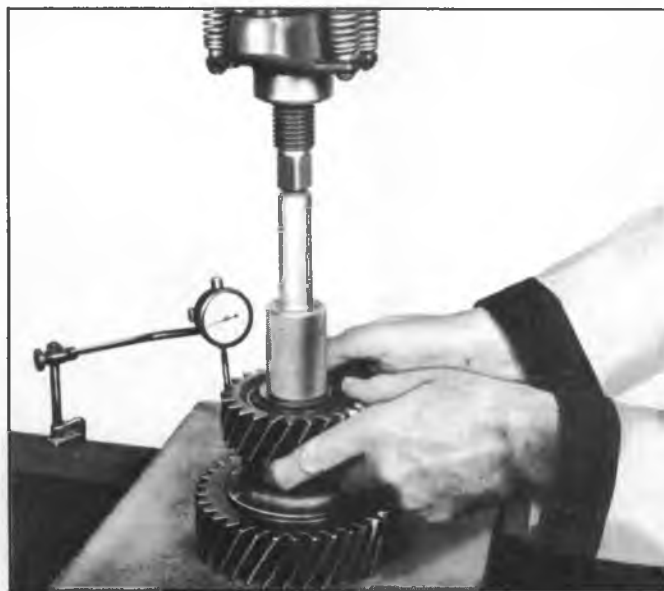

Fig. 11C--Checking Idler Gear End Play
2. Assemble the two bearing cones, spacer, shims and idler gear on dummy shaft J-23429 with bore up. Check end play (Fig. 11C). Limits are .000 to .002 inch.